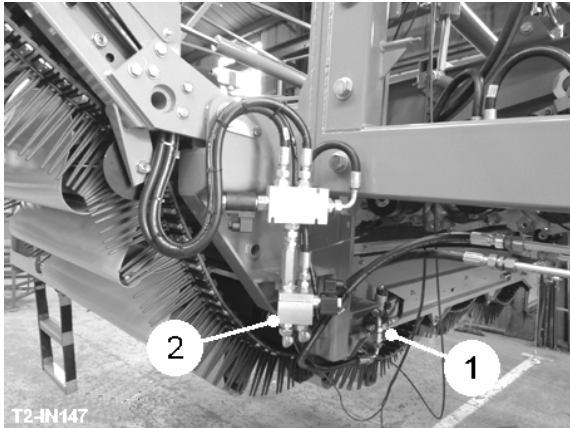

Fig 17
For the spreader to run, the auxiliary valve bank discharge section must first be turned on using the button  on the touch-screen. The button  will then start/stop the spreader independently of the elevator web. The speed of the spreader web is controlled by the flow divider (item 1, fig 17) from the touch-screen.
The touch-screen button  starts/stops all the elements of the rear section of the harvester. With the touch-screen button  ON, the joystick button  starts/stops only the elevator web by operating the bypass valve (item 2, fig 17).